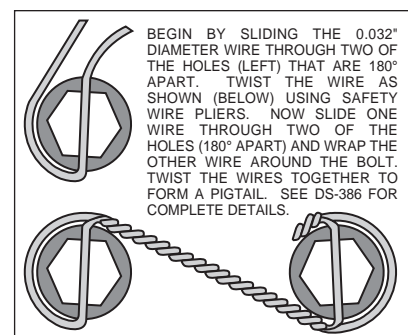

Figure 6. Safety Wire Diagram
- With the slot pointing upward and the mounting ears pointing towards the rear of the vehicle, install the caliper mounting bracket (1) to the housing flange using the stock Original Equipment Manufacturer (OEM) bolts and nuts. Stock OEM hex nuts that retain the bracket (1) should be on the wheel side of the bracket. Apply red *Loctite*® 271 to the stock OEM bolt threads and torque to OEM specifications. **NOTE:** Make sure the heads of the caliper mounting bracket insert nuts are **FACING OUTWARD TOWARDS THE WHEEL**.
- Bolt the hat (2) to the rotor (3) using washers (4) and bolts (5). Torque bolts (5) to 180 in-lb. Safety wire bolts (5) using standard 0.032 inch diameter stainless steel safety wire as shown in Figure 6. Please refer to Wilwood's data sheet DS-386 (available at www.wilwood.com/Pdf/DataSheets/ds386.pdf) for complete safety wire installation instructions.
- Align the correct hole pattern in the hat (2) with the stud pattern on the axle flange. **NOTE:** Some OEM and after market axles come with stud sizes larger than 0.50" diameter. Verify stud size and have a qualified machine shop drill the hats to the correct size. Slide the hat/rotor assembly (2 and 3) over the wheel studs and against the axle flange face.